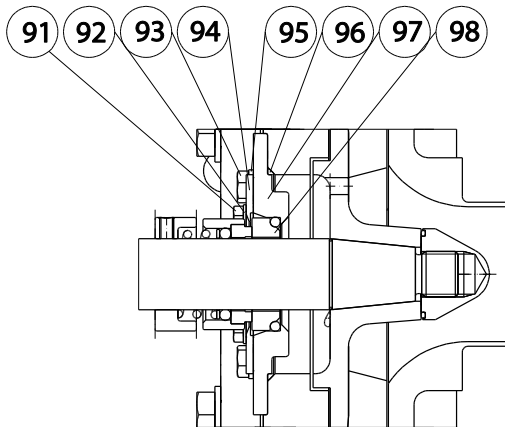

Figure 3 Mechanical seal S2.
1. If it has been disassembled: Fit the set ring of the mechanical seal and adjust it according to figure 3 and the values from the table below.